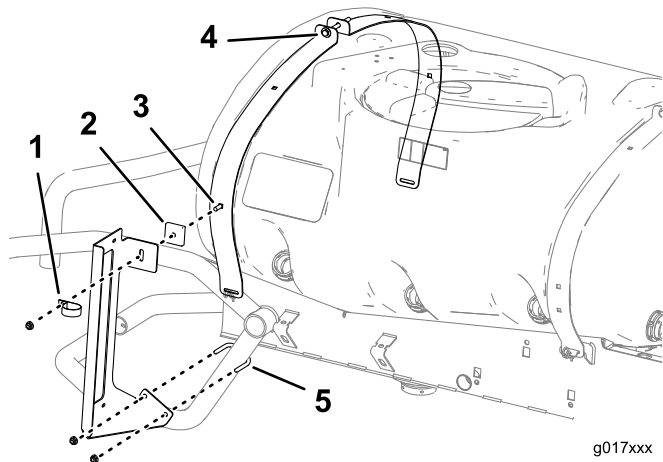

Figure 1
- Loosen the bolt on the top of the strap (Figure 1).
- Place the carriage bolt through the strap of the sprayer tank belt (Figure 1).
- Slide the spacer onto the bolt and place the bracket onto the bolt as shown in Figure 1.
- Place the U-bolt onto the machine as shown in Figure 1.